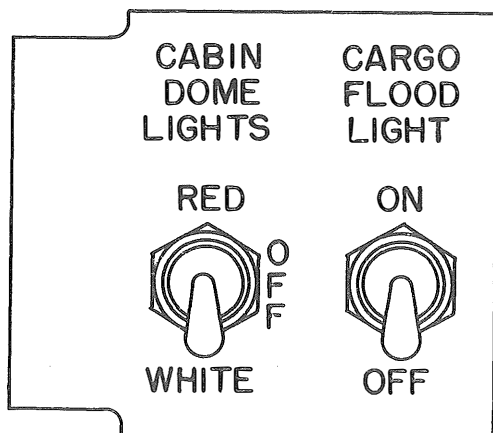

Figure 7-14. Cabin Dome Lights and Cargo Floodlight Switches
7-166. DESCRIPTION. (See figure 7-11.) The cargo floodlight (19) is mounted on the fuselage below and aft of the cargo door and provides illumination for pick-up and release of cargo during night operations. The light is operated by either one of two switches, one for the pilot and one for the crew. The pilot's switch, marked "CARGO FLD LT," is located on the overhead switch panel (figure 7-7) and has three positions marked "CREW," "OFF" and "PILOT." The crew switch, marked "CARGO FLOOD LIGHT," is located on the right side of the cabin above the cargo door. It is on the same panel with the cabin dome light switch. (See figure 7-14.) The crew "CARGO FLOOD LIGHT" switch is inoperative unless the pilot's switch is in the "CREW" position. The pilot may operate the light by placing his switch in the "PILOT" position.
7-174. DESCRIPTION. Dome lights and trouble lights (figures 7-7, 7-14, 7-11, and 7-15) are located as follows: four overhead dome lights for general interior lighting are provided, one in the cockpit, two in the cabin and one in the electronics compartment. The dome lights contain both a white and red lamp and are controlled by switches marked "RED-OFF-WHITE." The cockpit dome light switch is located on the overhead dome light panel. The cabin dome lights are controlled by the "CABIN DOME LIGHTS" switch (figure 7-14) inside the cabin above the cargo door. The electronics compartment dome light switch is located on the dome light support. Spare dome light lamps are provided in clip holders on the electronics